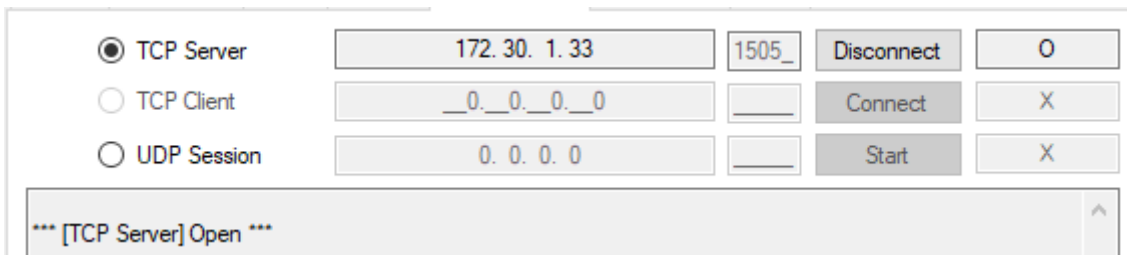

**Figure 24: Data Transfer Tab**
**Transfer** tab. If DA16200 succeeds to connect to an AP, the IP address will be filled in. See Figure 24.